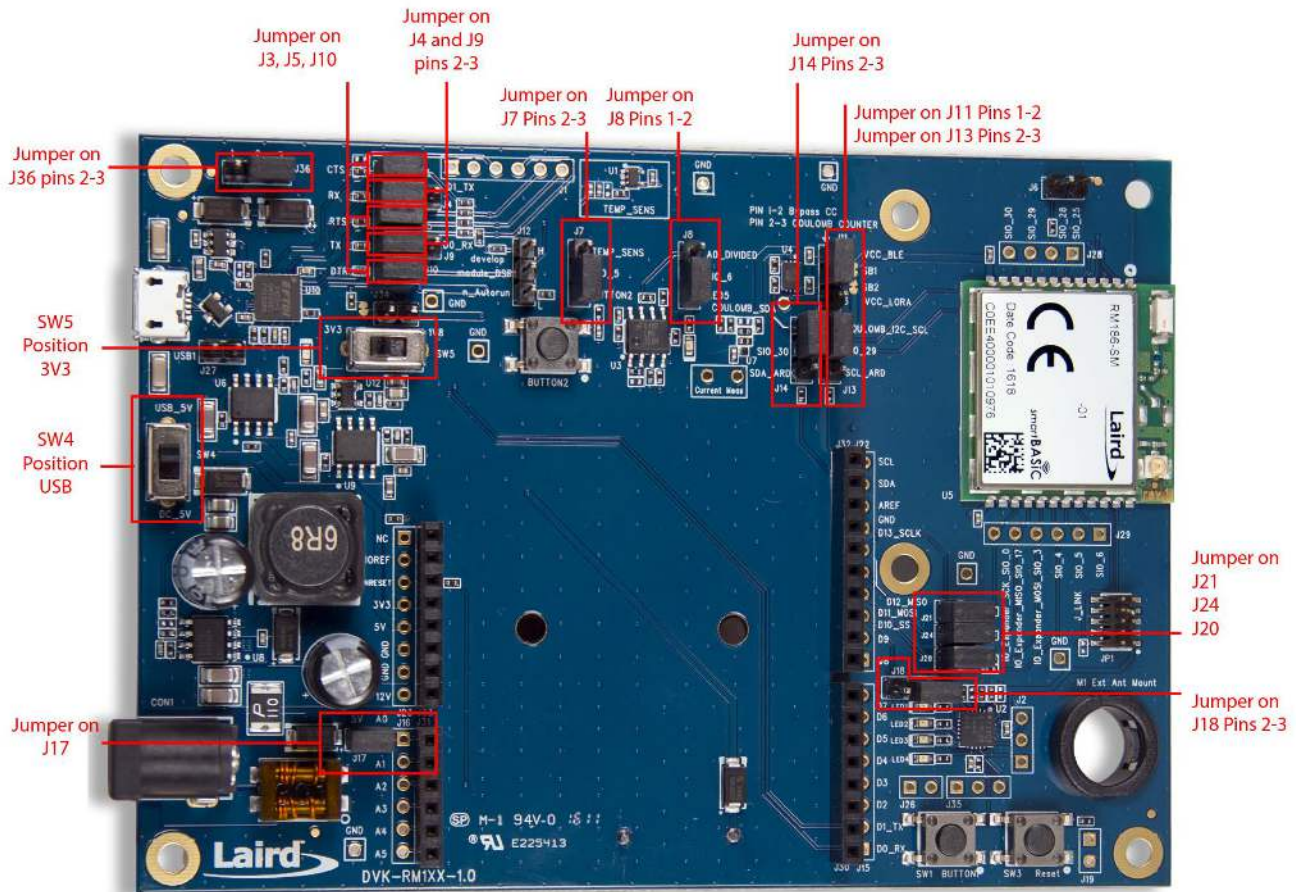

Figure 3: Correct development board jumper settings
**Important!** To ensure correct ‘out of the box’ configuration, the **RM1xx** development board must be set according to **Figure 3**.